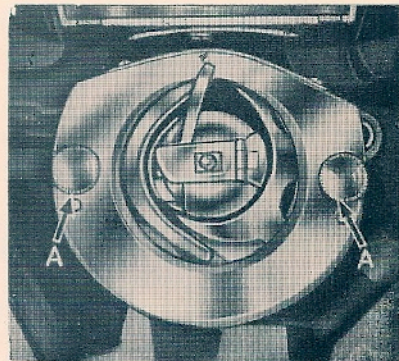

Fig. 10
2. Pull the KNOBS (A) on both sides of shuttle race (Fig. 10 & 11) aside, then take out the outside ring and the shuttle body with your fingers.